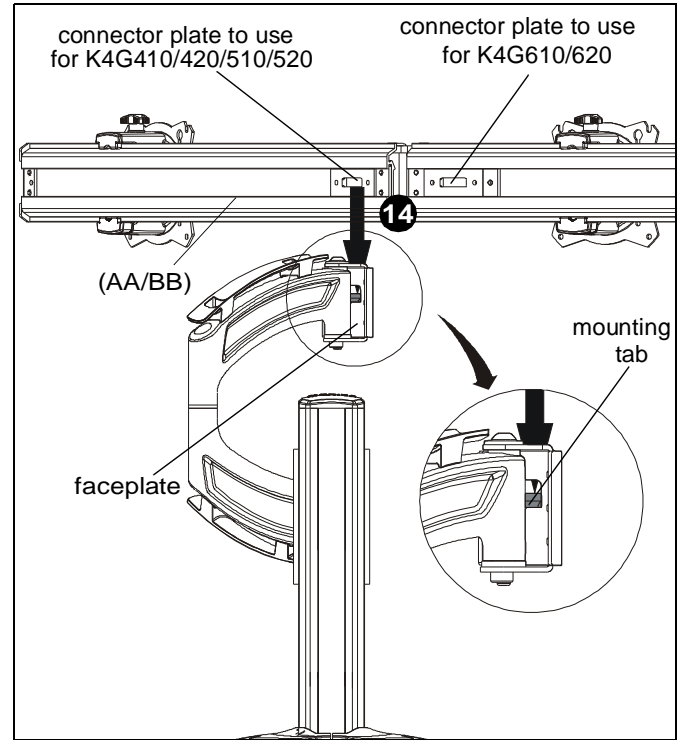

Figure 5
14. Hang right and left array arms (AA and BB) onto column arm (F or G) faceplates using the mounting tab on the faceplate. (See Figure 5)
IMPORTANT ! : Connect faceplates to the outer array arms as shown in Figure 5 when installing K4G410/420/510/520 mounts. Connect faceplates to the inner array arms when installing K4G610/620 mounts. Minor adjustments to the connection location may need to be made in order to compensate for sagging. See Display Leveling Section for details.